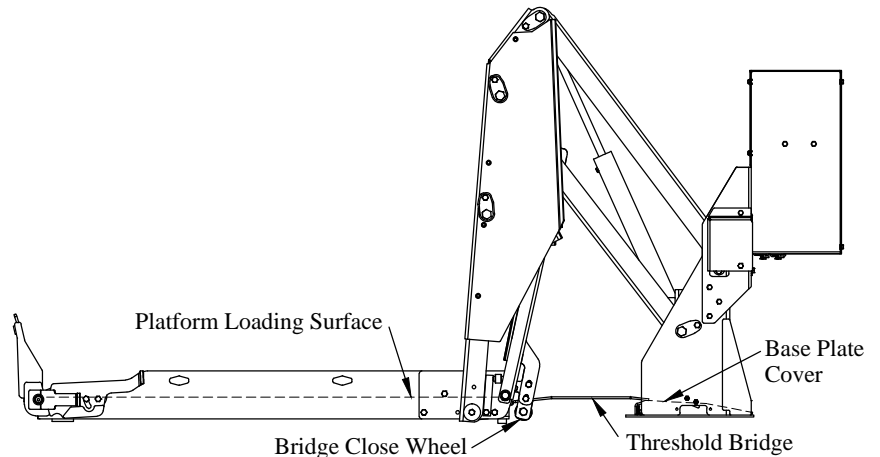

Figure 25: Platform and threshold bridge.
3. **Check** if the platform loading surface is even with base plate cover (Figure 25).
4. **Position** the platform so that it is even with the top of the base plate cover (Figure 25).
1. **Raise** the platform as high as it will go with just the pendant toggle (Figure 25).
3. **Adjust** each bridge close wheel so that it is tight against the bottom of the threshold bridge (Figure 25).